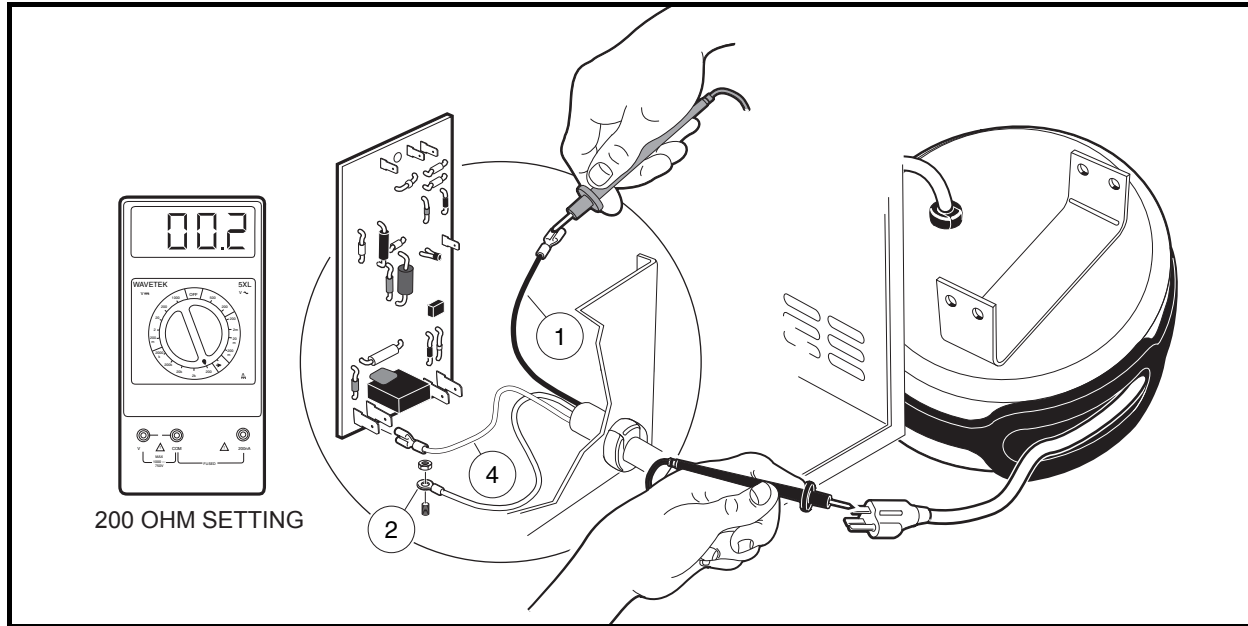

Figure 9-12 AC Cord and Retractable Cord Reel Continuity Test
4. Disconnect the green wire (2) from charger case and position it so it does not touch any metal part of the charger (**Figure 9-12, Page 9-18**).
5. Disconnect the black wire (1) of the short AC cord from charger AC circuit breaker.
6. Disconnect the AC cord white wire (4) from the control board.
7. Using a multimeter set for 200 ohms, place the red (+) probe on the terminal at the end of the black wire (1) (**Figure 9-12, Page 9-18**). Test for continuity on each of the flat blades and then on the round pin of the AC plug (on the retractable cord reel). The tester should indicate continuity on one flat blade only. If any other reading is obtained, the short AC cord and retractable cord reel must be tested independently of each other.
8. Place the red (+) probe on the end of the green wire (2) and with the black probe check for continuity on both flat blades and on the round pin of the AC plug (on the retractable cord reel) (**Figure 9-12, Page 9-18**). The tester should indicate continuity on only the round pin. If any other reading is obtained, the short AC cord and retractable cord reel must be tested independently of each other.
9. Place the red (+) probe on the white wire (4) and check for continuity on both flat blades and on the ground pin of the AC plug (on the retractable cord reel). The tester should indicate continuity on only one flat blade. If any other reading is obtained, the short AC cord and retractable cord reel must be tested independently of each other.